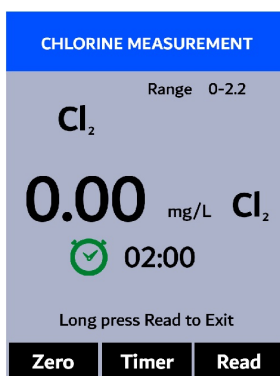
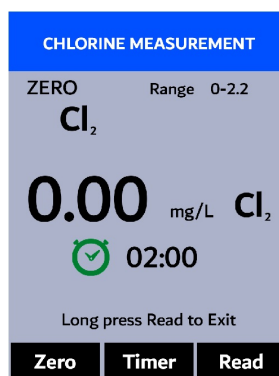

Figure 33.
Figure 34.
3. Press **OK** to launch the **CHLORINE MEASUREMENT** screen (Figure 33).
4. Rinse the main module sample cell three times with deionized (DI) water. Fill the sample cell with DI water.
5. Press **Zero** (**<**). **ZERO** will appear on the top-left corner of the display (Figure 34).